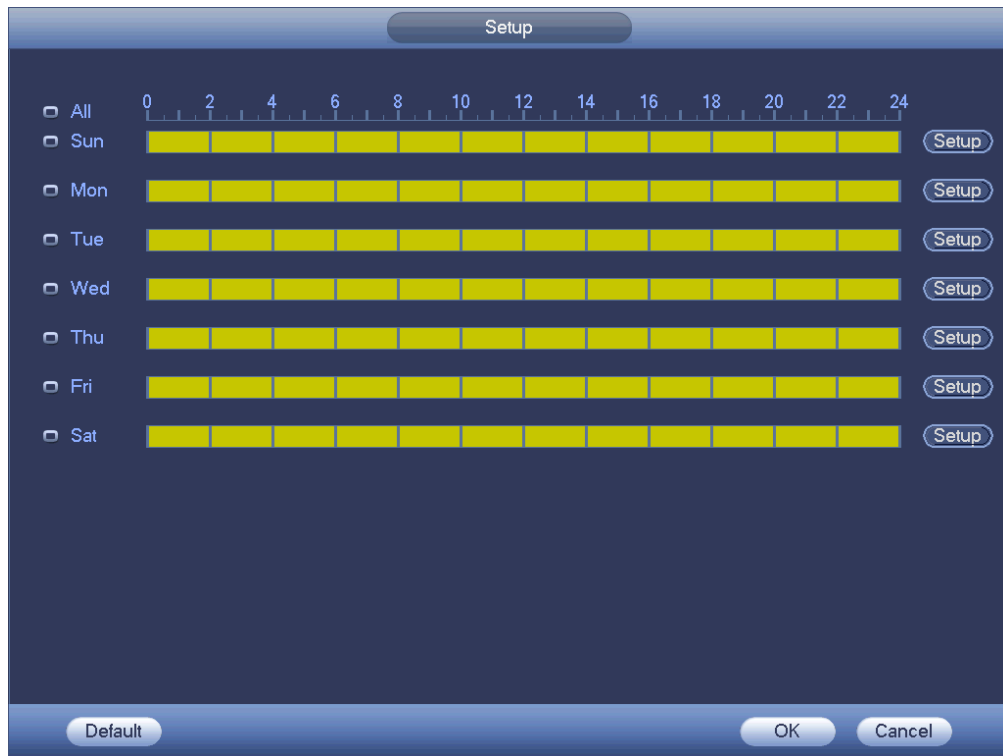

Figure 4-171
1. Click Stranger Mode and the system displays as follows. See Figure 4-171.